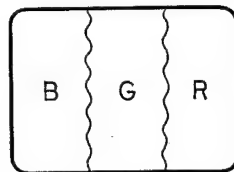

Fig. 3-3.
6. Adjust the purity magnet control to centre the vertical green band on the screen as shown in Fig. 3-3.